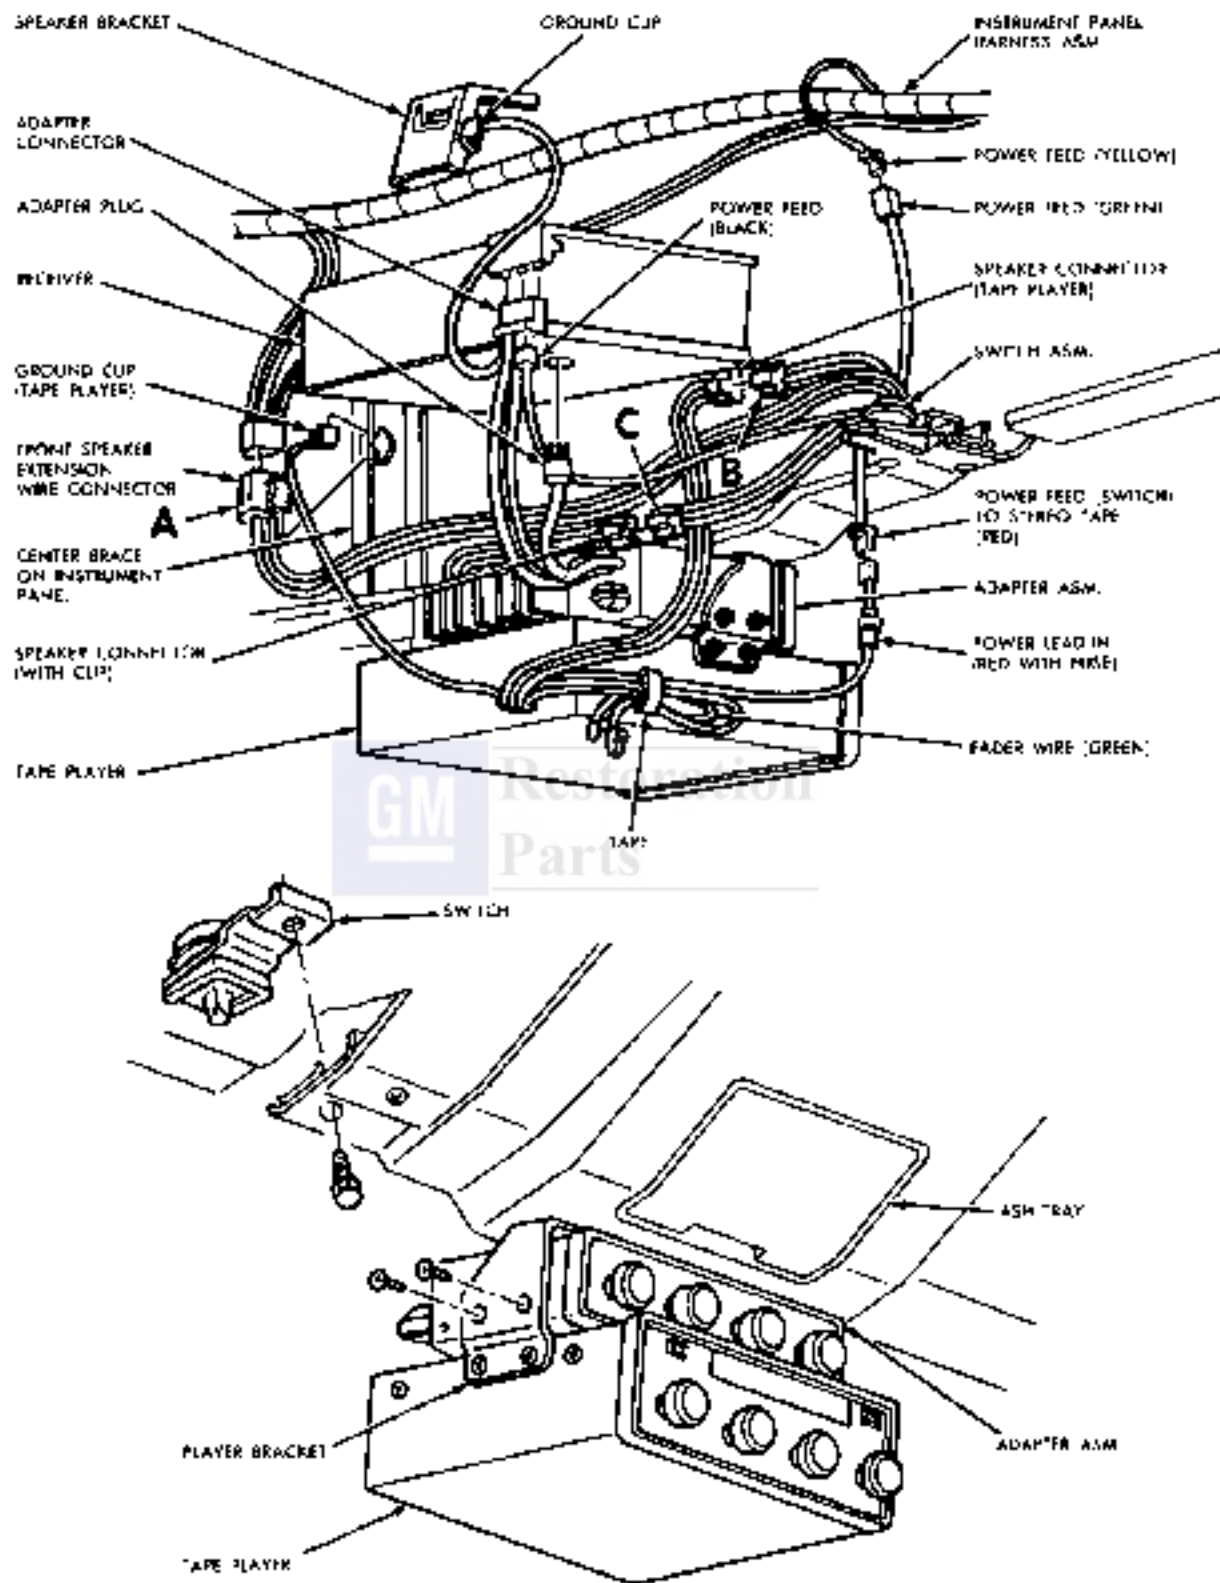

Fig. 15-54 Stereo Tape Player with Multiplex—Firebird
5. Disconnect six-wire speaker connector from stereo speaker connector (or from connector to multiplex-tape player switch-connector C in figure 15-54 if also equipped with tape player).
also equipped with multiplex adapter, this wire will be connected to a six-wire connector from the tape player-multiplex switch assembly (see Fig. 15-54).
PLAYER SWITCH (Fig. 15-54)**
4. Disconnect three six-wire connectors (marked A, B, and C on Fig. 15-54).